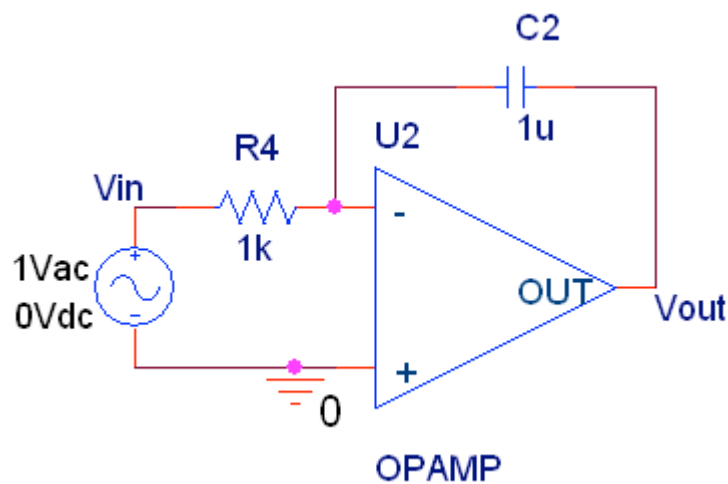

Figure 2: Integrator
1. Simulate the circuit shown in Figure 2. The voltage source is the part “VAC.”